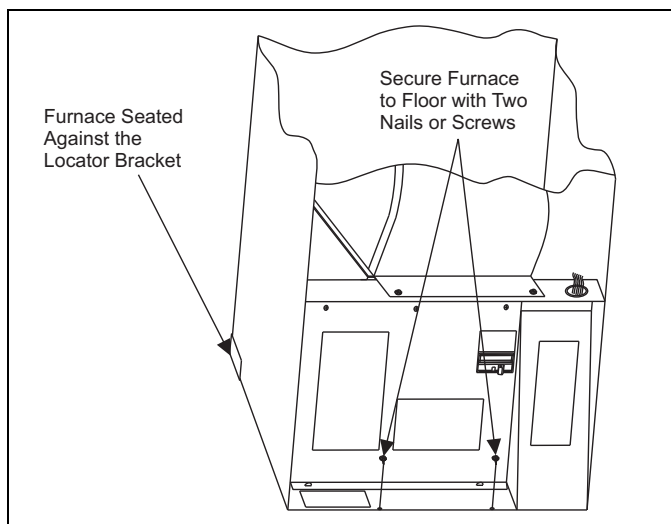

FIGURE 9: Installation of Furnace
2. Secure the front of the furnace with two screws at the mounting holes provided. See Figure 9.